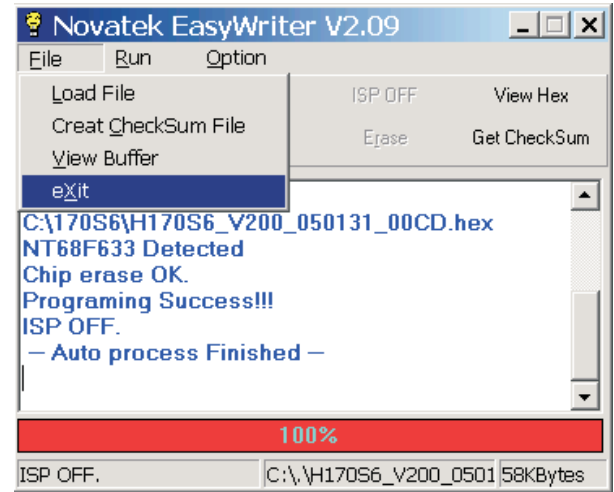

Fig. 12
4. Press the file --> exit to end program , as shown in Fig. 12.